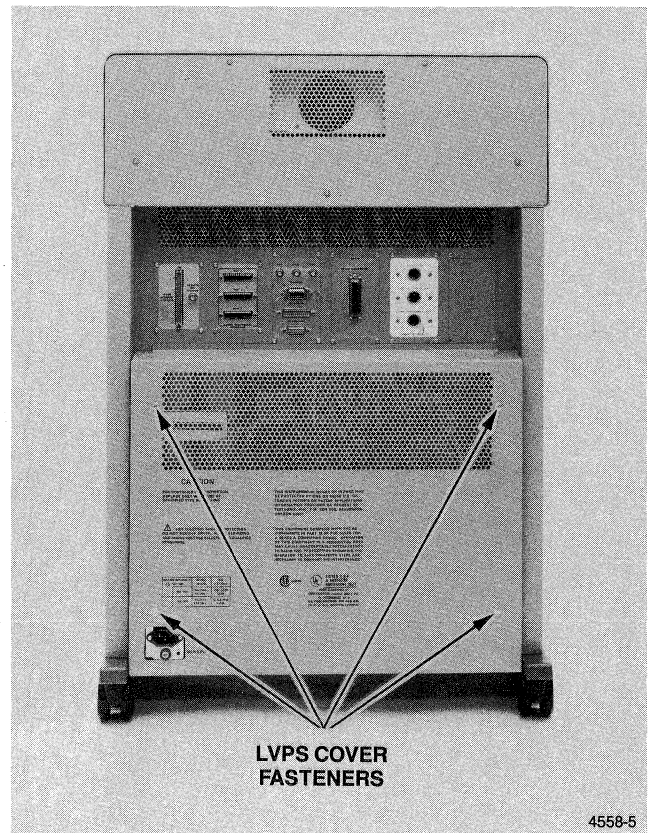

Figure 8. Power Supply Cover Removal.
3. Turn the power supply cover fasteners $\frac{1}{4}$ turn counter-clockwise to release and pull the cover toward you to remove (Figure 8).